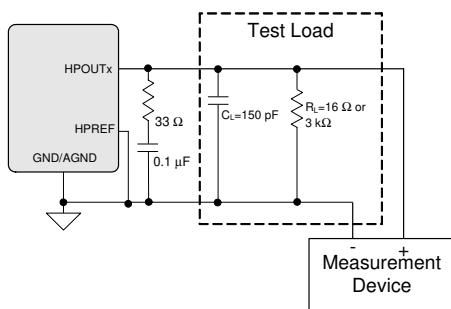
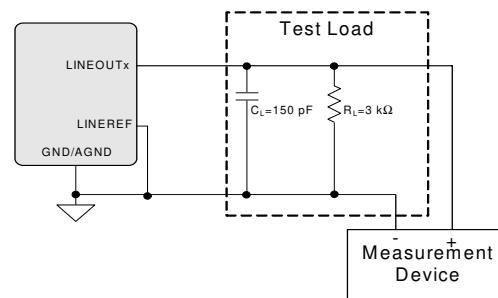

Figure 3. HP Output Test Configuration
Figure 4. Line Output Test Configuration
Test conditions (unless otherwise specified): Connections to the CS42L55 are shown in the "Typical Connection Diagram" on page 10; Input test signal is a full-scale 997 Hz sine wave; All Supplies = VA, VCP Mode; GND = AGND = 0 V; $T_A = +25^\circ\text{C}$; Measurement bandwidth is 20 Hz to 20 kHz; Sample Frequency = 48 kHz; Test load $R_L = 3 \text{ k}\Omega$, $C_L = 150 \text{ pF}$ for a Line Load, and test load $R_L = 16 \Omega$, $C_L = 150 \text{ pF}$ for a headphone load. (See Figure 3 on page 15).
Test conditions (unless otherwise specified): Connections to the CS42L55 are shown in the “Typical Connection Diagram” on page 10; Input test signal is a full-scale 997 Hz sine wave; All Supplies = VA, VCP Mode; GND = AGND = 0 V; $T_A = +25^\circ\text{C}$; Measurement bandwidth is 20 Hz to 20 kHz; Sample Frequency = 48 kHz; Test load $R_L = 3 \text{ k}\Omega$, $C_L = 150 \text{ pF}$ (see Figure 3 on page 15).
14. See Figure 3 and Figure 4 on page 15. Refer to “Parameter Definitions” on page 71.